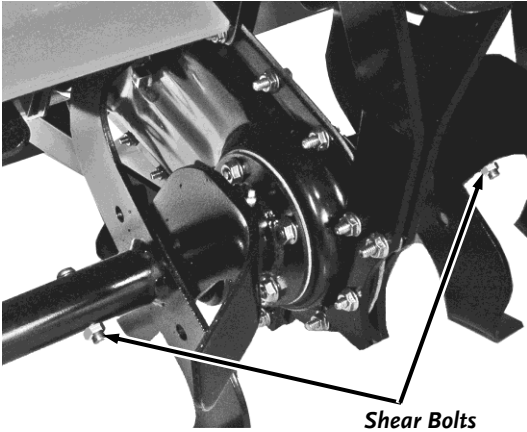

Figure 26
- The DR TOW-BEHIND ROTOTILLER drive components are protected from damage by Shear Bolts in the Tine Assemblies (**Figure 26**). The Shear Bolts hold the Tine Assemblies in proper location on the Drive Axles. Should a Tine Assembly strike or pick up a large hidden object and jam, the Shear Bolt holding the Tine Assembly to the drive shaft will shear or break, protecting the drive components of the DR TOW-BEHIND ROTOTILLER from major damage.